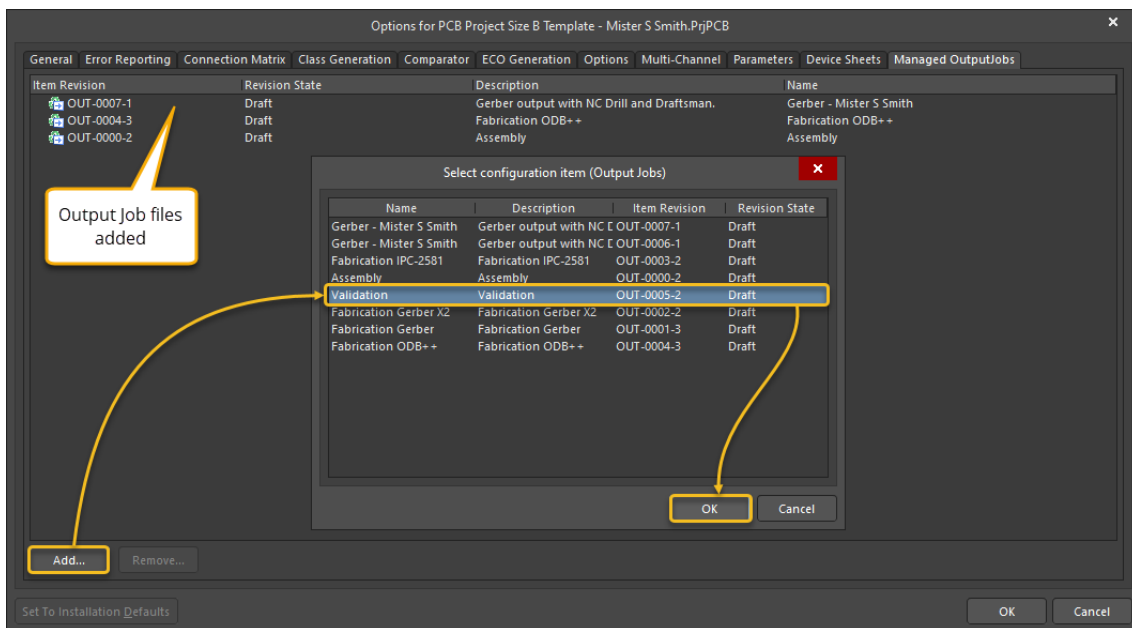

Figure 25. Adding Output Job Files
92. Selecting **Add** to add the first Output Job File, Figure 25.